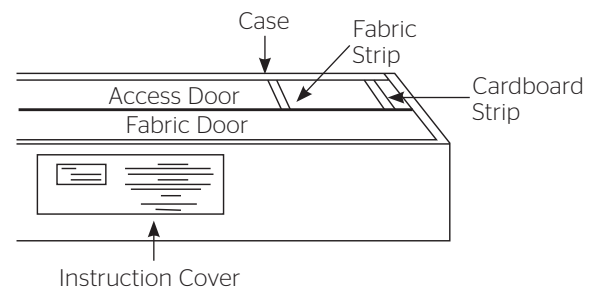

Figure 1
2. Remove instructions cover and please read instructions. (Fig. 1)
3. Remove fabric and cardboard strips from access door. (Fig. 1)